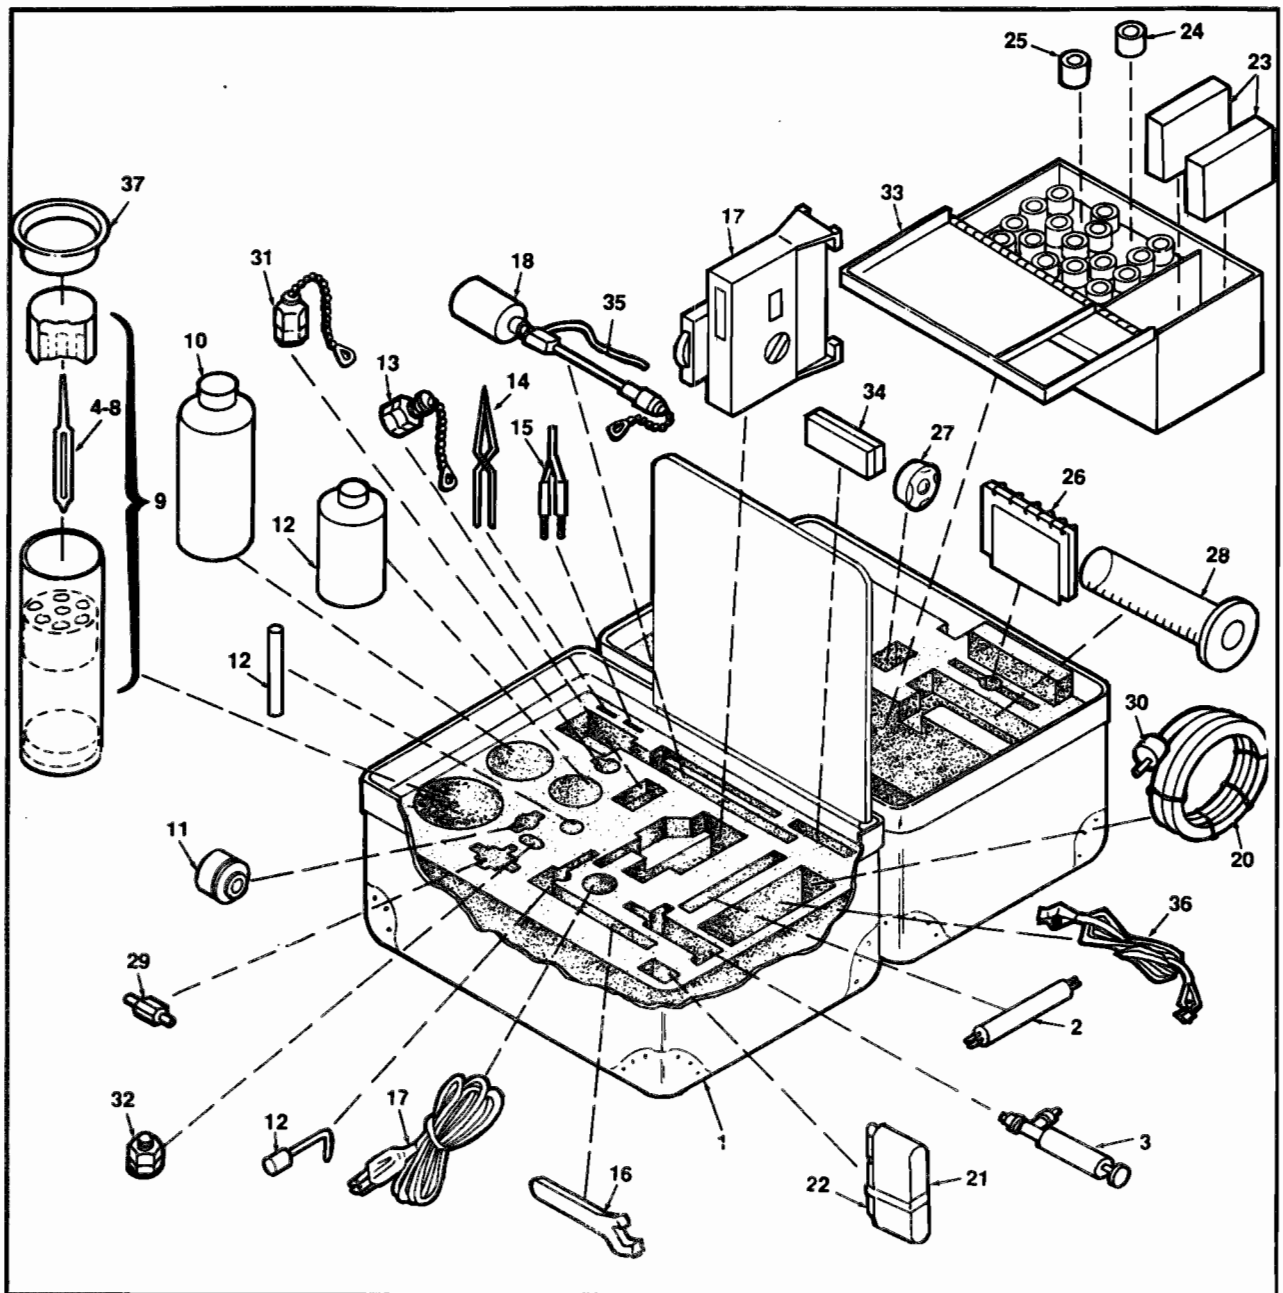

Figure 1.1 Loading Plan
The numbered components in the following equipment list included in the Aviation Fuel Contaminant Test Kit correspond to lettered items in Figure 1.1, Loading Plan.
2.3.1 Required Equipment and Expendable (See Figure 1.1, page 1-5, Aviation Fuel Contaminant Test Kit Loading Plan)
All parts and tools referred to in the following steps can be identified in Figure 1.1, page 1-5, or on the test kit placard (see Loading Plan).